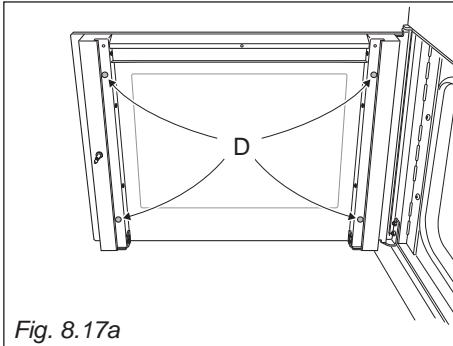

Fig. 8.17a
- Check that the four rubber pads are in place ("D" in fig. 8.17a).